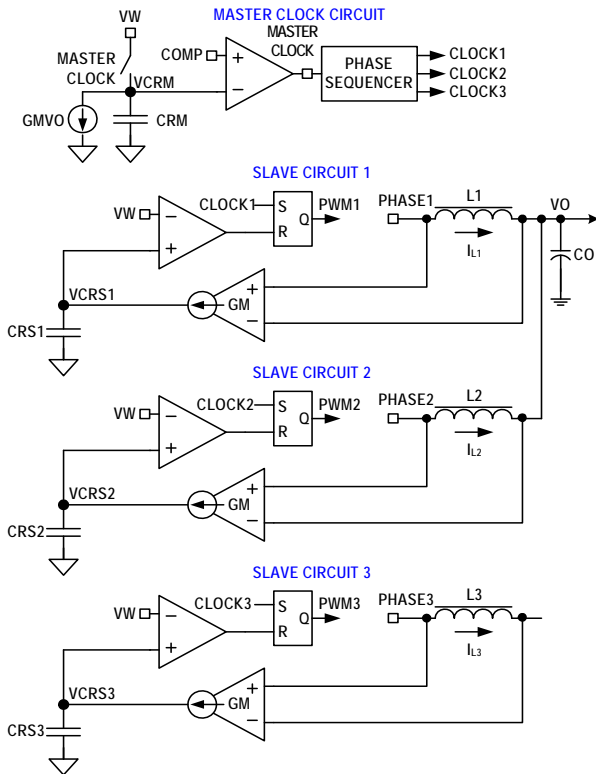

FIGURE 6. R3™ MODULATOR CIRCUIT
The ISL62771 is a multiphase regulator implementing two voltage regulators, CORE VR and Northbridge (NB) VR, on one chip controlled by AMD's™ SVI2™ protocol. The CORE VR can be programmed for 1- or 2-phase operation. The Northbridge VR only supports 1-phase operation. Both regulators use the Intersil patented R3™ (Robust Ripple Regulator) modulator. The R3™ modulator combines the best features of fixed frequency PWM and hysteretic PWM while eliminating many of their shortcomings. Figure 6 conceptually shows the multiphase R3™ modulator circuit, and Figure 7 shows the operation principles.